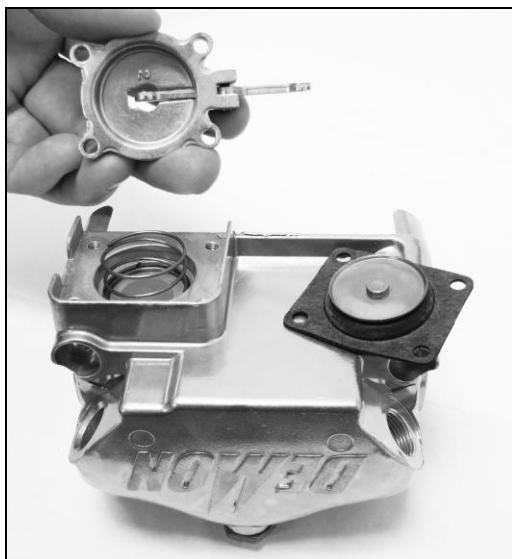

Figure 3
5. Removal of four Phillips screws allows the accelerator pump housing to be lifted from the fuel bowl (Fig. 3). The pump diaphragm is located below this cover. This should now be discarded as a new diaphragm is included with your package. A return spring is located beneath the diaphragm and it should be saved for reuse.